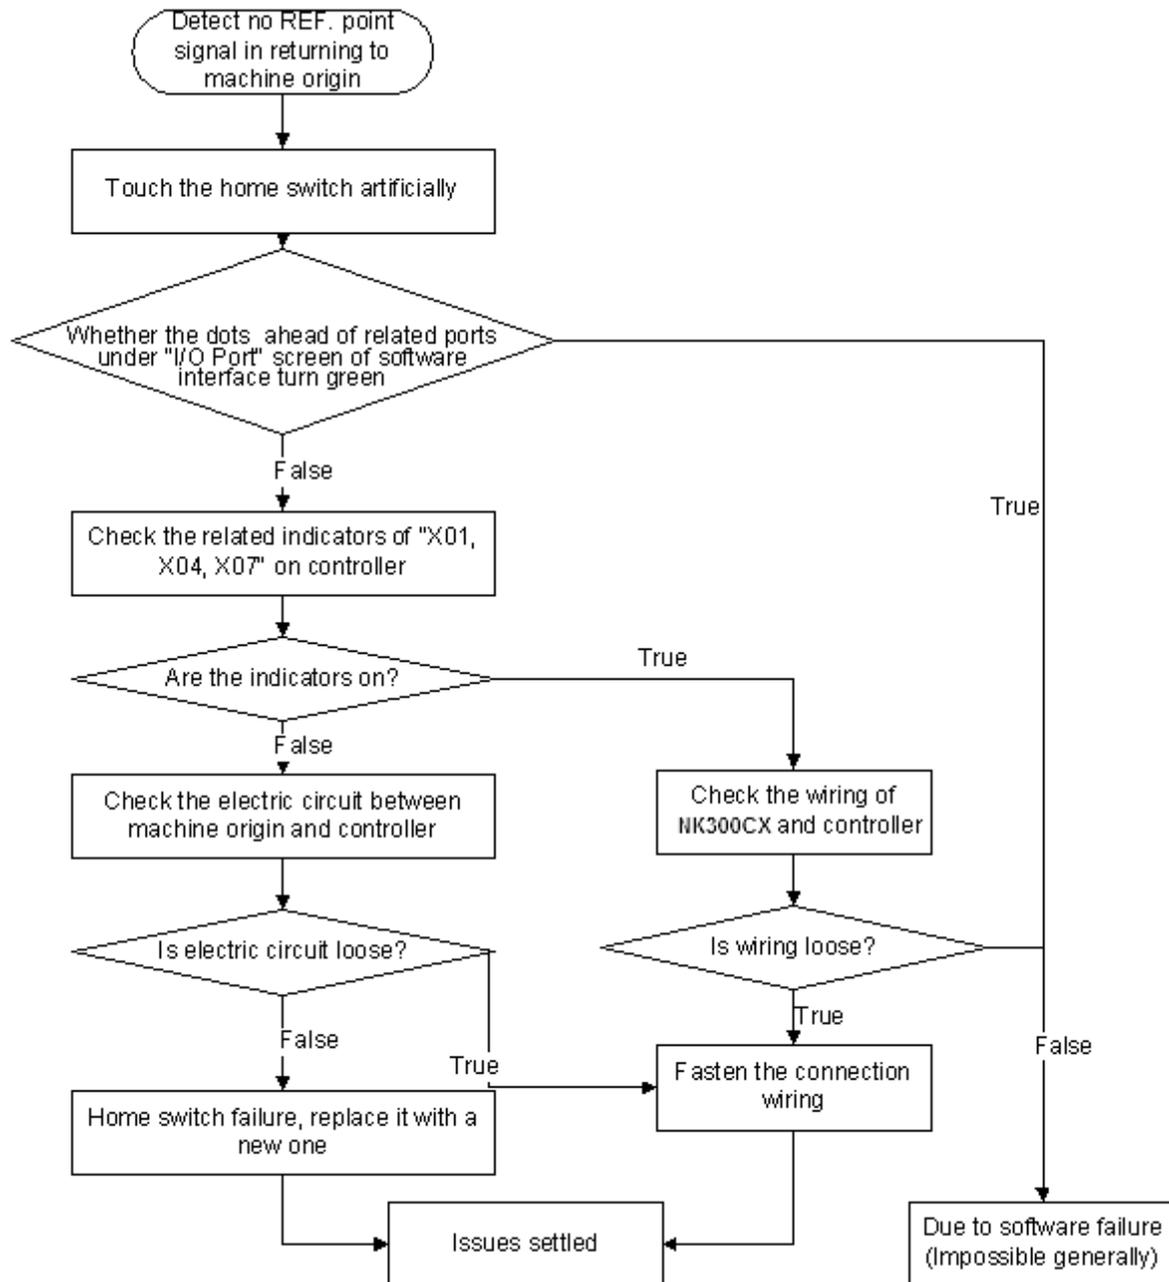

Fig. 3-17 Debugging Steps
1. REF. point signal cannot be detected in the process of returning to machine origin. It is generally caused by home switch fault. The adjusting & debugging steps are as shown in Fig. 3-17.